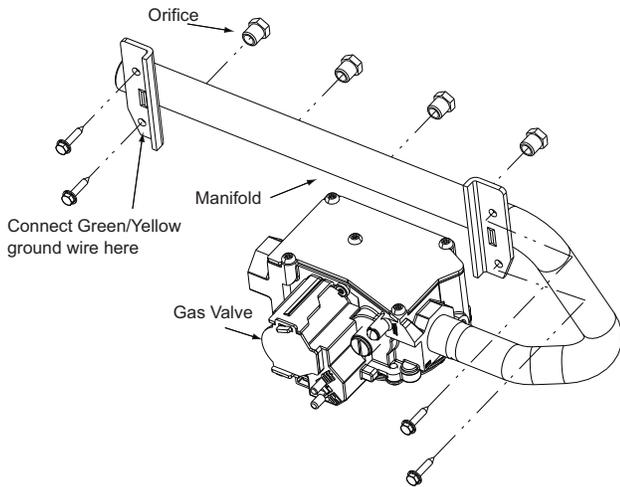

Fig. 2 - Manifold Assembly
4. Note the location of the green/yellow wire ground wire for re-assembly later. See Fig. 2.